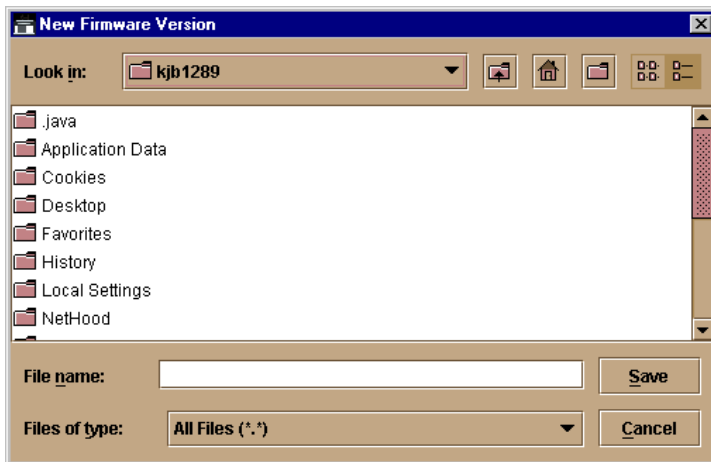

Figure 3-26: New Firmware Version Dialog Box
- a. At the SDCM server or other personal computer (PC) with Internet access, open the Compaq website. The uniform resource locator (URL) is <http://www.compaq.com/products/storageworks/director64>.
5. Click New. The New Firmware Version dialog box (Figure 3-26) displays.